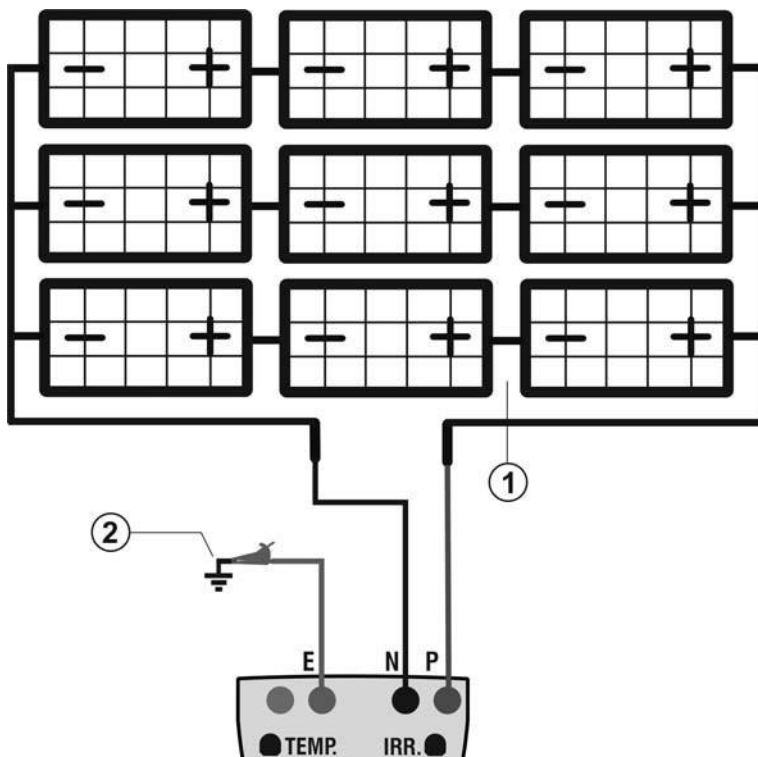

Fig. 10: Instrument connection for insulation measurement in FIELD mode
3. Connect the instrument to the PV field being tested and to the main earth node of the system shown in Fig. 10. In particular, connect the negative output pole of the PV field to terminal N and the positive output pole of the PV field to terminal P.